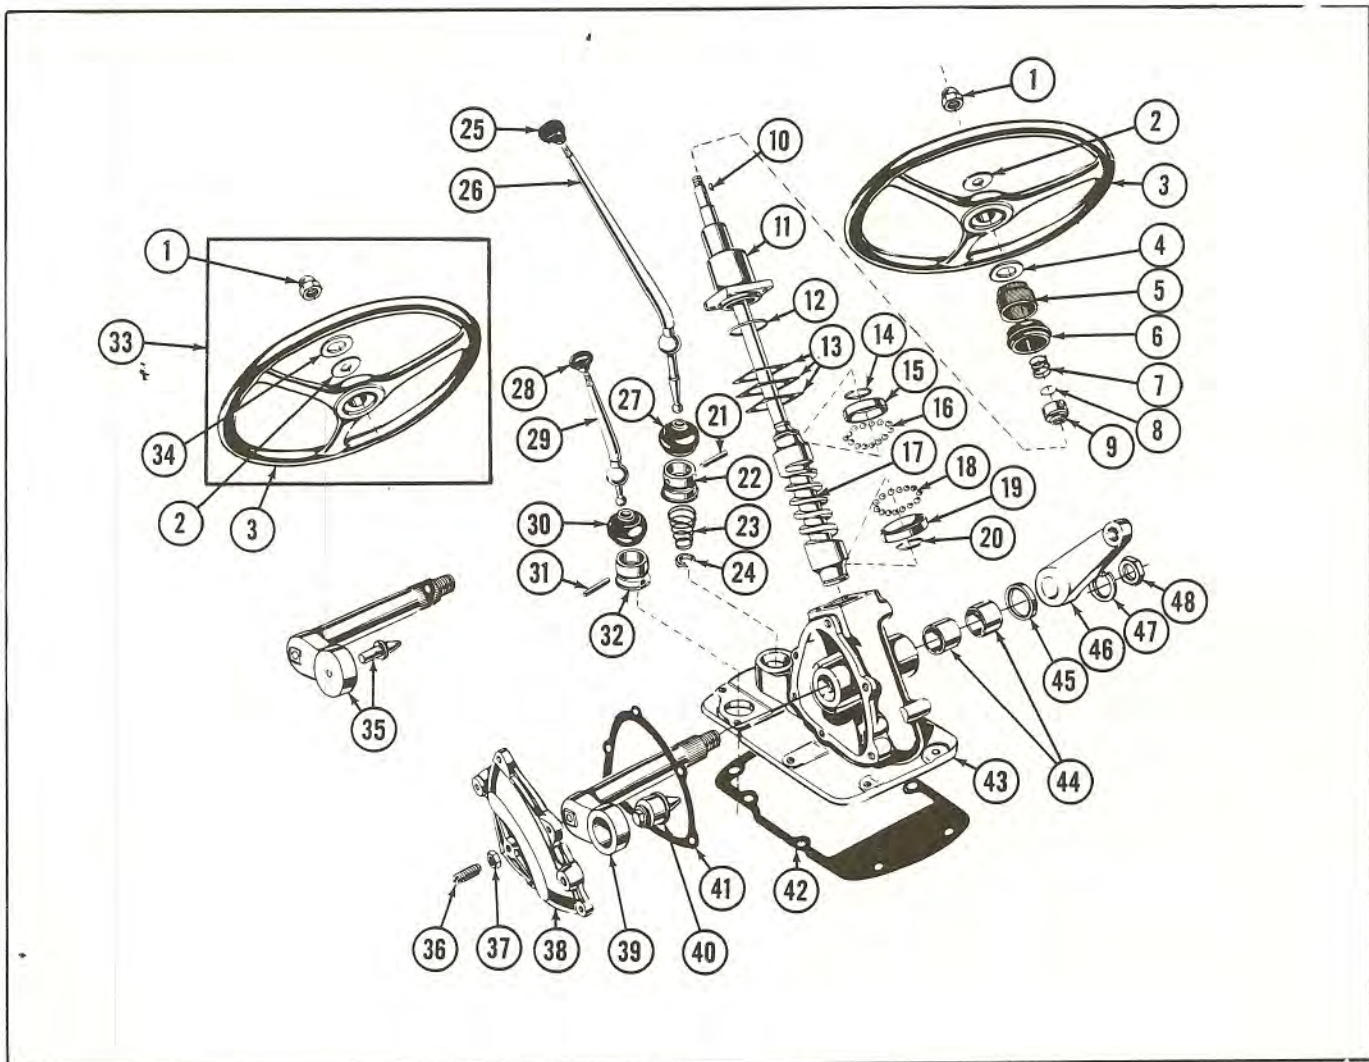

Fig. 2 — Steering Gear Housing Nomenclature
3. Collapse the spring (No. 23) and remove the retaining collar (No. 24, Fig. 2) and the spring from the gear selection shift lever.
4. Raise up the rubber boot (No. 27) and drift out the gear selection shift lever pin (No. 21, Fig. 2).
5. Raise the rubber boot (No. 30) and tap the planetary shift lever cup (No. 32) down until the shift lever pin (No. 31, Fig. 2) is below the bottom of the steering gear housing.